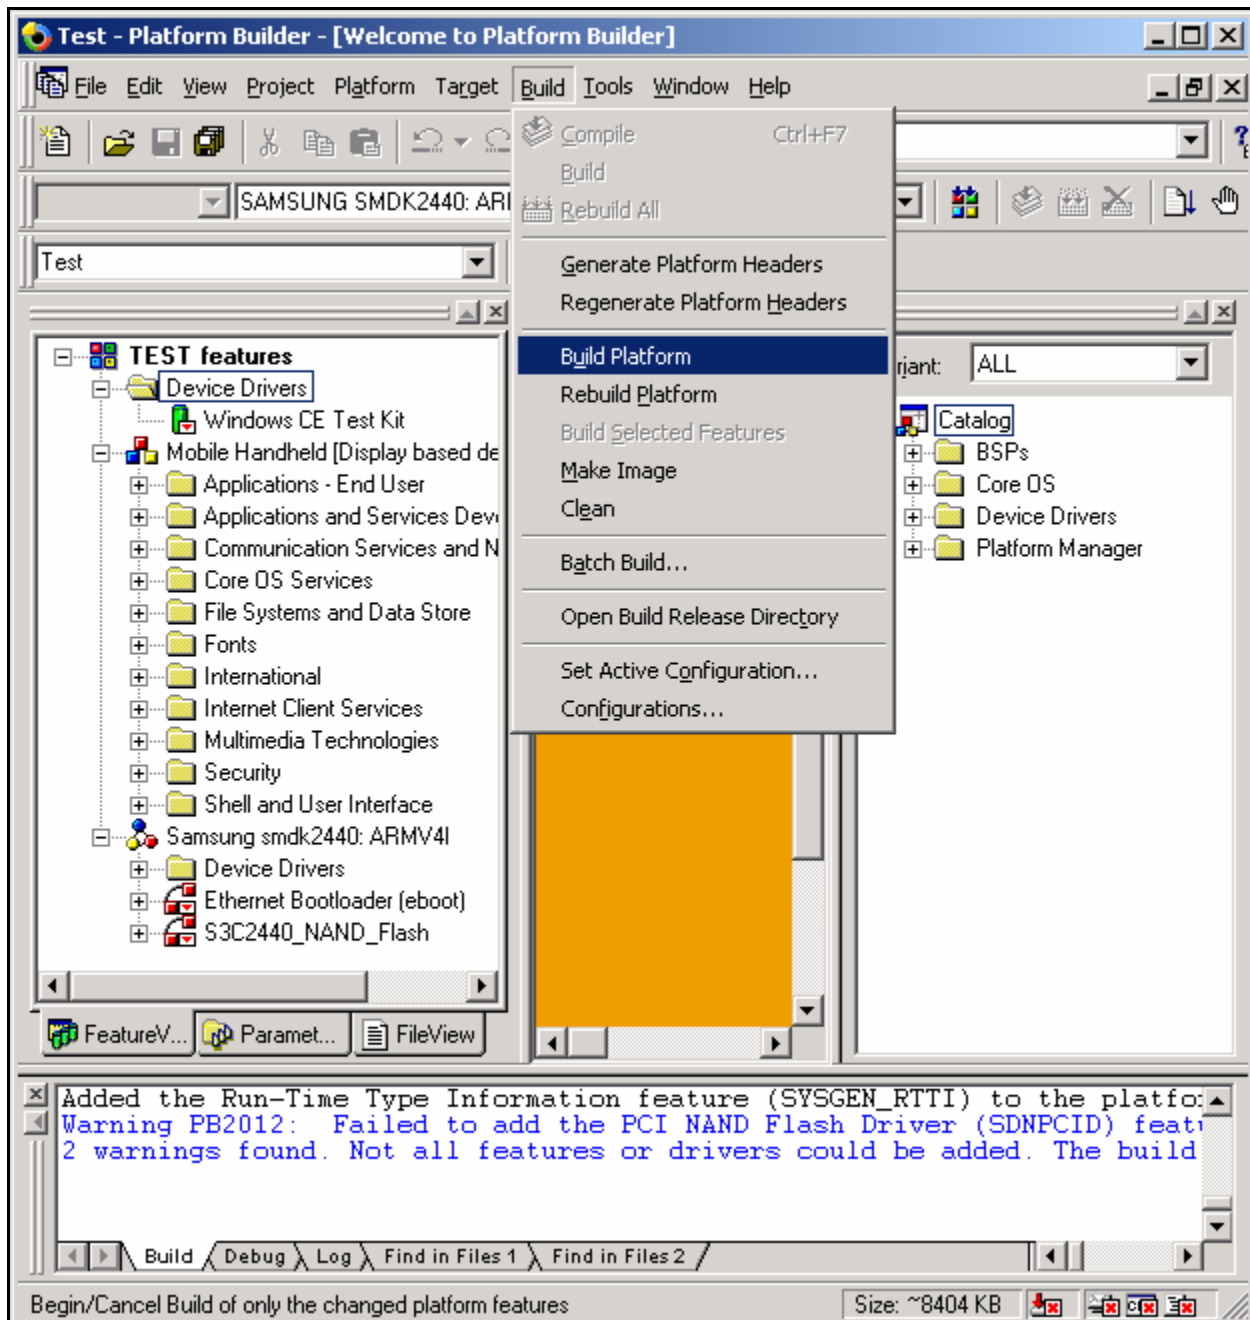

Figure 3-6 Build Platform
13. Now please select 'Build Platform' from the 'Build' menu in the Platform Builder window to build the 'Eboot image' and the 'OS image' for your platform as shown below in the figure 3-6.